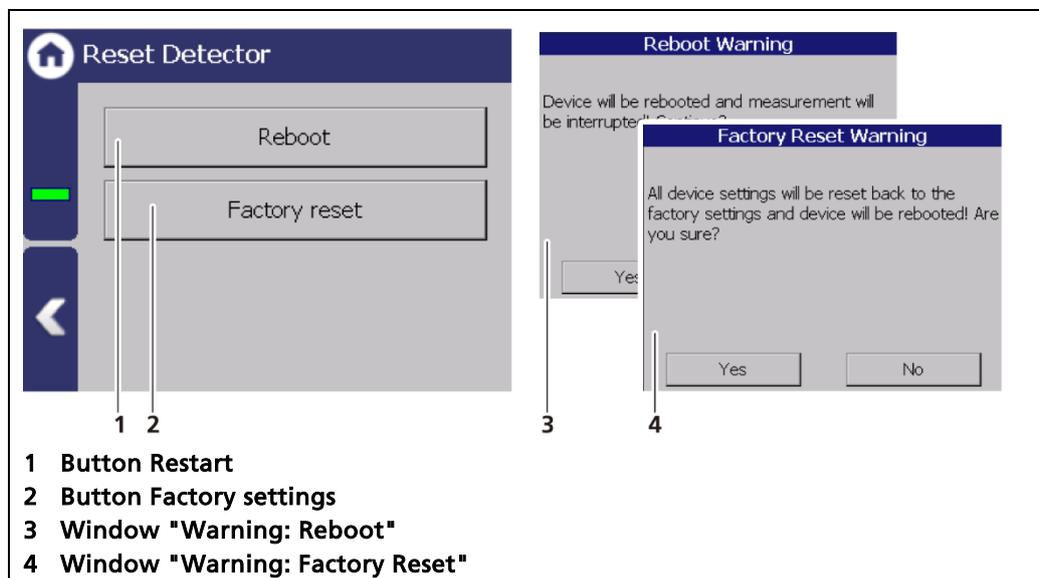

Fig. 78 Reset Detector
1. To restart the detector, click the button <Restart> (Fig. 78, item 1).
- ▶ A window with a warning "Restart" (Fig. 78, item 3) opens.
1. To reset the detector to the factory settings, click the button <Factory settings> (Fig. 78, item 2).
- ▶ A window with the warning Factory settings (Fig. 78, item 4) opens.